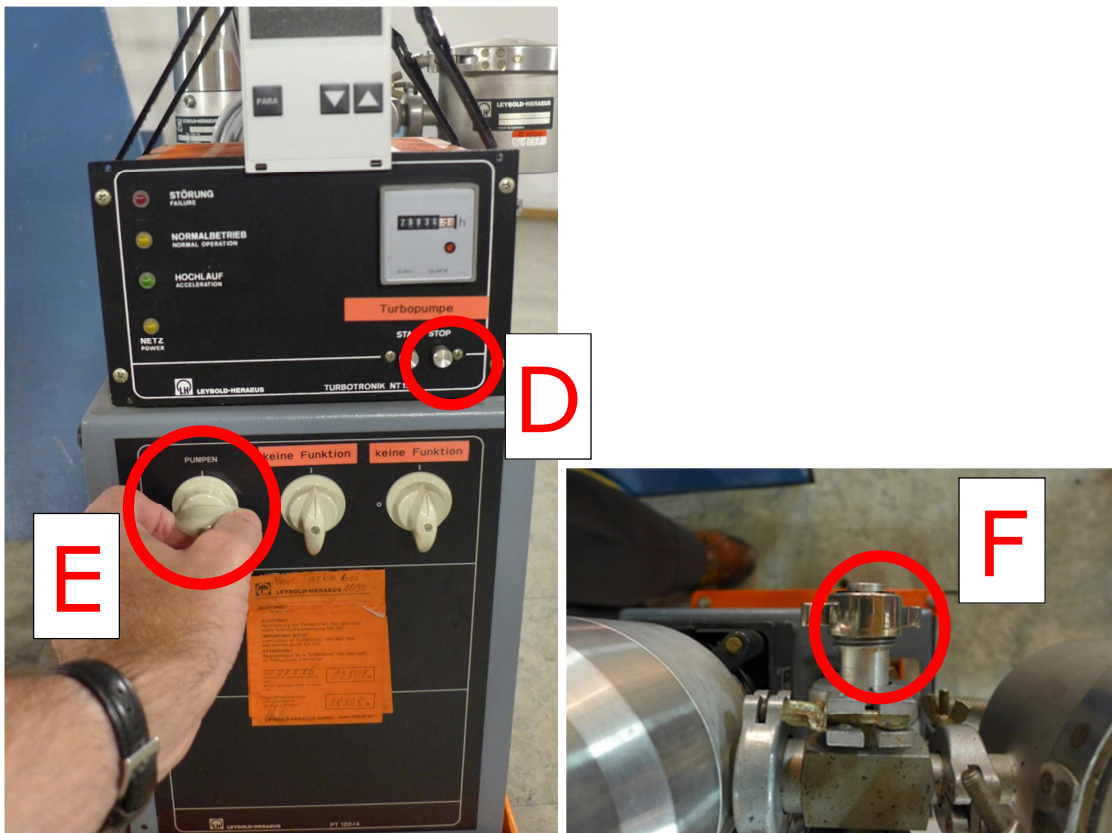

Figure 7-2: Switch off TMP (D), turn off roughing pump (E) and open venting valve (F).
- The **TMP** by pressing stop (Figure 7-2, D) and the **roughing pump** by turning the knob "PUMPEN" to 0 (Figure 7-2, E).
- w) Open slowly the **venting valve** at the side for about 2 or 3 turns (Figure 7-2, F).